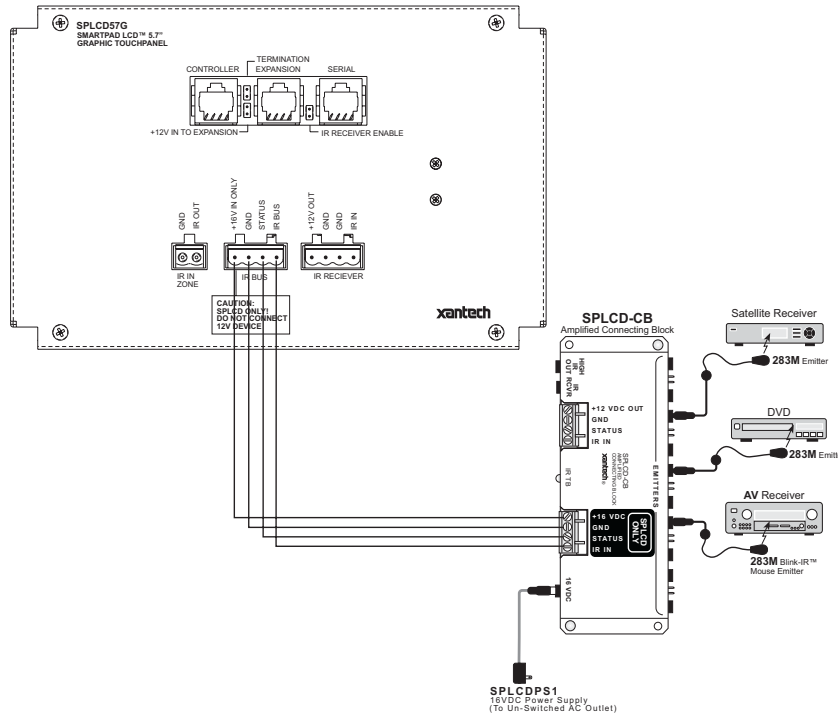

Figure 1 – Basic Connection: Connecting the SmartPad LCD™ Controller to the SPLCDCB100
1. Wire 4-Conductor 18AWG from the SPLCD's IR OUT, GND, STATUS (optional) and +16VDC terminals back to the appropriate terminals of the SPLCDCB100 Connecting Block. 18AWG can be run in excess of 1000ft. See **Figure 1** for wiring examples.